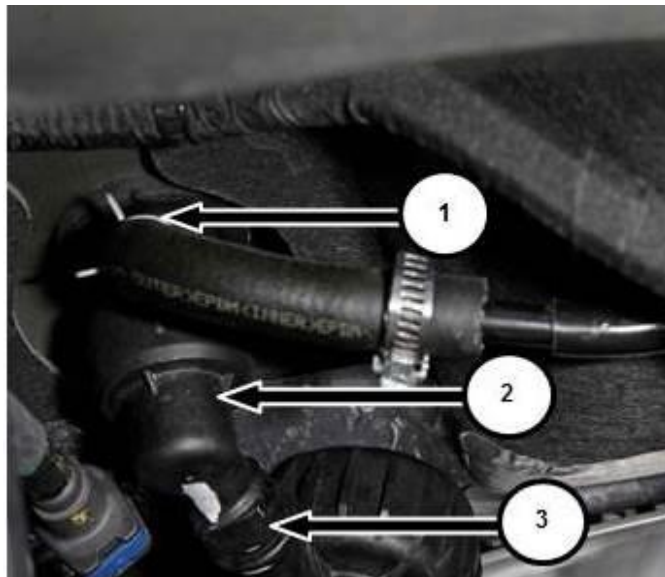

Fig. 5 Clutch Master Cylinder RHD
7. Remove the high pressure line clip (1) and disconnect the high pressure line (2) from the hydraulic clutch master cylinder (Fig. 5).
8. Remove the hydraulic clutch master cylinder (1) from the vehicle by rotating the clutch master cylinder clockwise 90° and discard(Fig. 5).
12. Install the new hydraulic clutch master cylinder supply hose (3) and install clamp and stud tie (Fig. 5).
13. Install the hydraulic clutch master cylinder high pressure line (2) and clip (1) (Fig. 5).